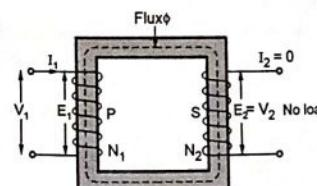

Fig. 5.6.1 Ideal transformer on no load
• Consider an ideal transformer on no load as shown in the Fig. 5.6.1. The supply voltage is  $V_1$  and as it is an no load the secondary current  $I_2 = 0$ .